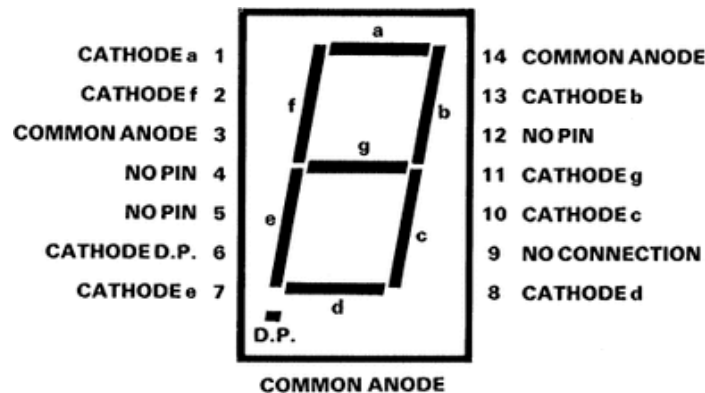
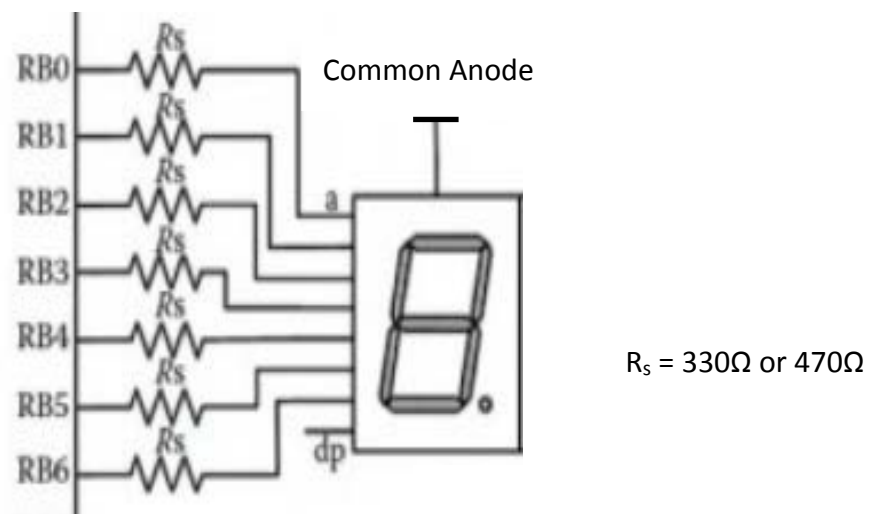

Figure 8-4
Figure 8-5
1. Referring to Figure 8-4 and Figure 8-5, connect the common anode 7-segment display in your kit to the PIC-P40 board and write a C program to display the following sequence of characters 9, 8, 7, 6, 5, 4, 3, 2, 1, 0, F, E, d, c, b, A, (case-sensitive) continuously, with a 1.2 second delay in-between each displayed character, while the on-board button is being pressed. When the button is released, the counting should stop and continuously display the character that was being displayed when the button was released. Once the button is pressed again, the count should resume with the next character. Use Timer 0 or Timer 1 to generate the 1.2 second delay.